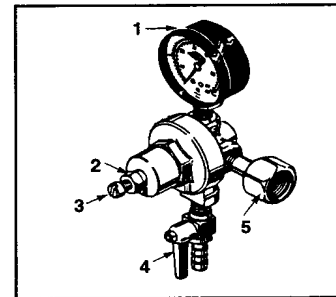

Figure 10
- The gauge monitors low internal keg pressure and should be adjusted to read 10-12 PSI. (See Figure 10)